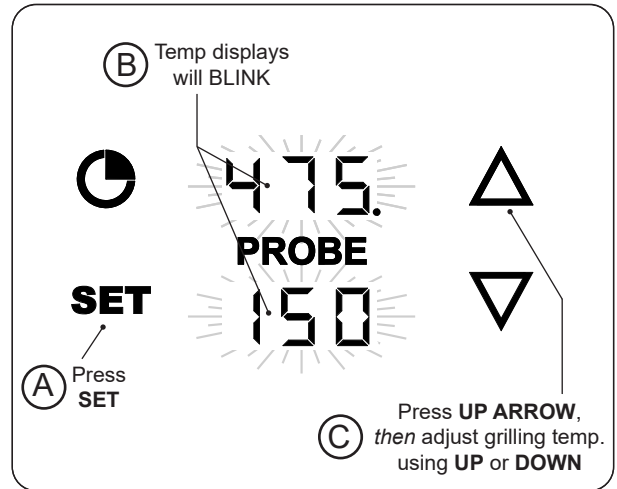

Fig. 35-1 Set grilling temp.
1. With the thermometer/thermostat **on**, press the **SET** button once. The grilling and probe displays will blink. (While blinking, either area can be selected to enter their settings.) See Fig. 35-1, A and B.
2. Press the **UP ARROW** to select the grilling temp settings, then use the up or down arrows to set the desired temp. (Fig. 35-1, C).